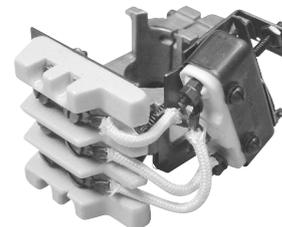

Figure 7
- **Series R** switches are designed for the highest temperature applications up to +540 °C (+1000 °F), see Figure 7.